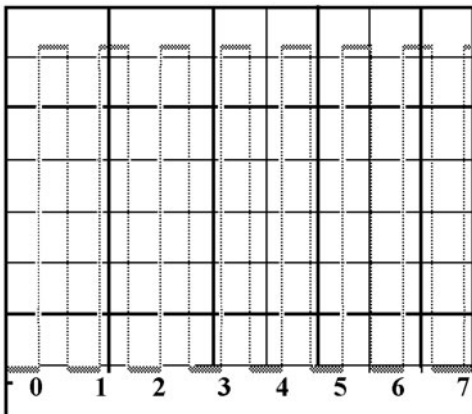

Figure L40-6
9. The output from the 4046 VCO on the oscilloscope should have been similar to the diagram shown in Figure L40-6.